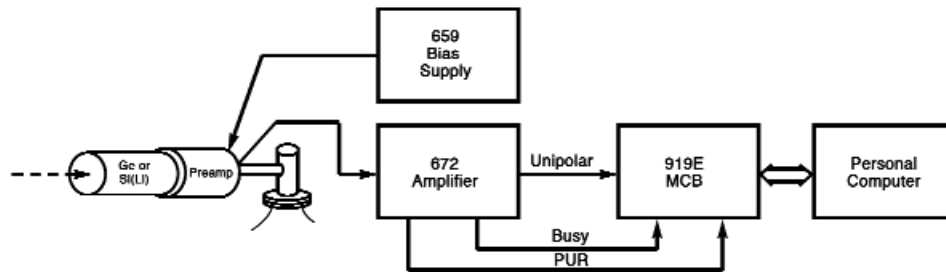

Fig. 8. Pulse-Height (Energy) Spectroscopy with a Ge Detector for Gamma Rays, or a Si(Li) Detector for X Rays.
- Si(Li) detector (Fig. 8 and 10).
- Ge detector (Figs. 8, 9, and 10).
In Figures 8 and 9, connection of the BUSY and PUR signals between the amplifier and MCB is essential for achieving accurate dead time correction with the Gedcke-Hale Live-Time Clock in the MCB.